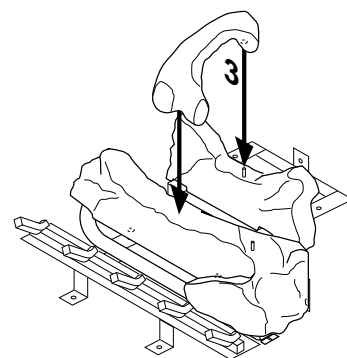

Figure 48 - Installing Log No. 3
3. Place log #3 ("C"-shaped crossover log) onto the rear and front logs. Make sure it is seated properly on the smooth surface on the front log and on the pin on the back log as shown in Figure 48.